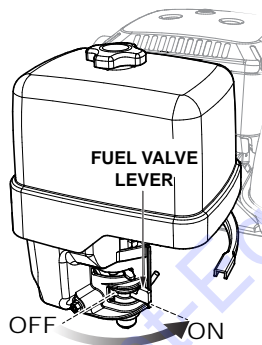

Figure 16. Fuel Shut-Off Lever (ON)
1. Place the fuel shut-off lever (Figure 16) in the **ON** position.
- Place the belt slip lever (Figure 16) in the **START/STOP** (disengaged) position.